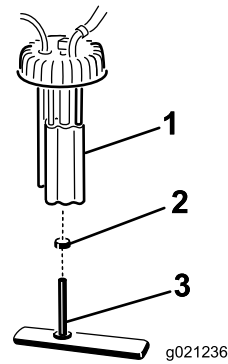

Figure 55
2. Unplug the wire harness connectors from the fuel pump (Figure 55).
3. Remove the fuel pump assembly and fuel filter from the tank (Figure 55).
4. Remove the clamp securing the fuel filter hose to the fuel pump fitting. Remove the hose from the fitting (Figure 55).